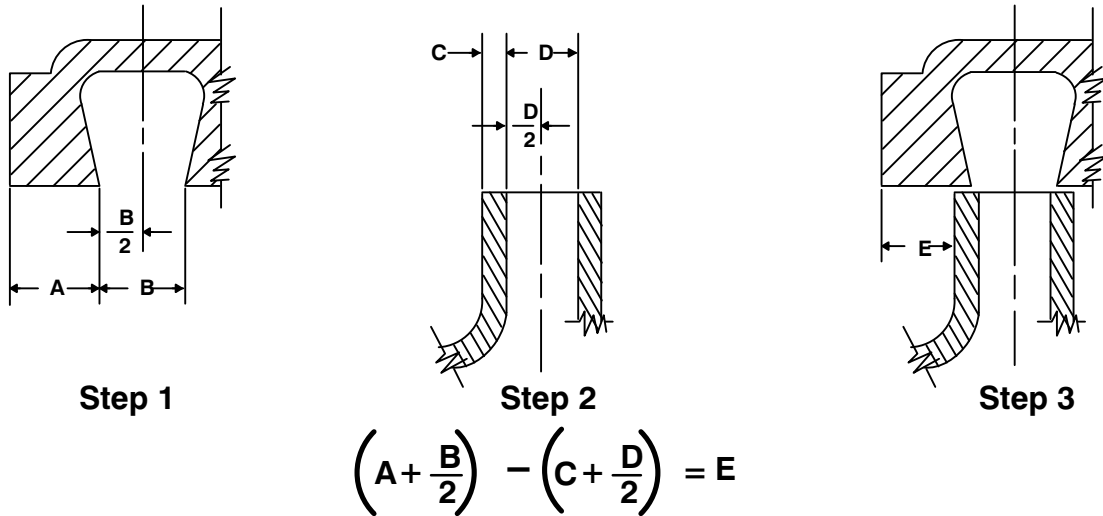

Figure 5. Centering Impeller Within Volute Scroll
To verify the impeller positioning, measure the pump casing and impeller as shown in Figure 5. Use these measurements to calculate the required impeller location (dimension E). Add or remove impeller adjusting shims (42) until dimension E is obtained.